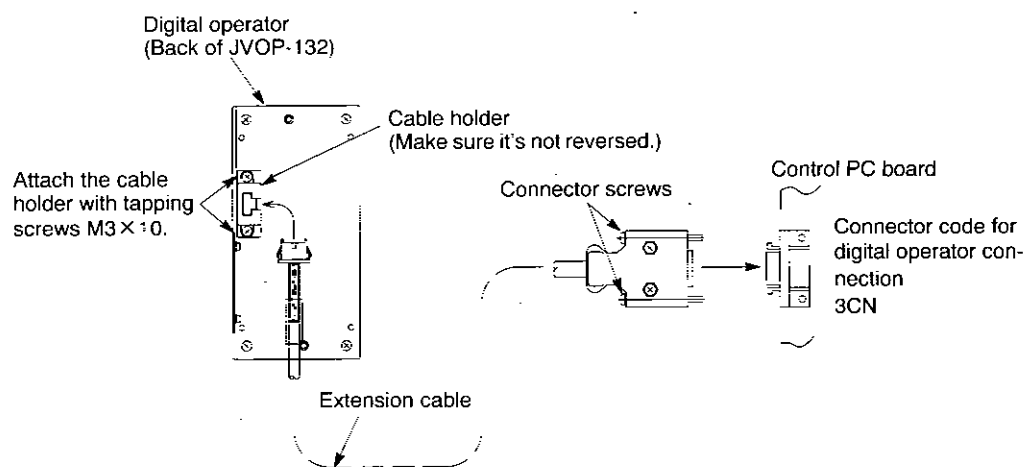

Fig. 18 Extension Cable Installation
- ① Turn OFF the inverter power supply.
- ② Connect the extension cable on both inverter and digital operator sides. (See Fig. 18.)
- ③ After inserting the connector into the inverter, tighten two connector screws to prevent the connector from being removed.
- ④ Install the cable holder on the digital operator side with the provided tapping screws to prevent the cable from dropping.